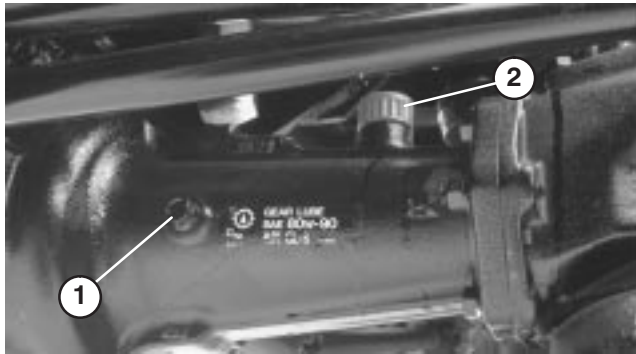

Figure 21
2. Remove check plugs from axle and make sure lubricant is up to bottom of each hole. If level is low, remove fill plugs and add enough lubricant to bring the level up to the bottom of the check plug holes (Fig. 21 & 22).